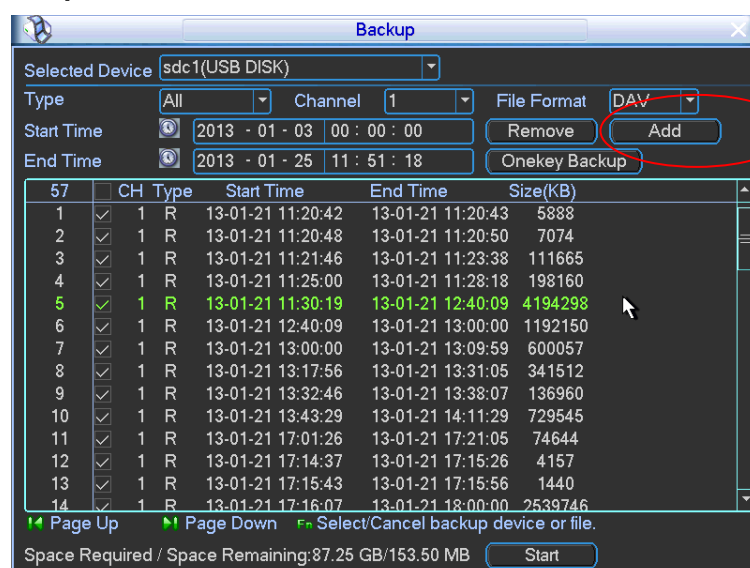

Figure 2-33
- Select a backup device and then click Backup button. System pops up the following interface. See Figure 2-33.